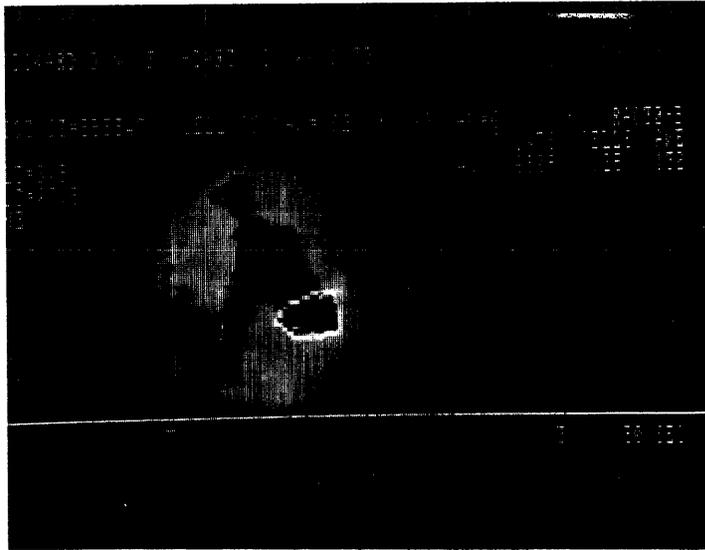

FIGURE 1. ROI defined over end-diastole left ventricle
- 4) Enter irregular region of interest (IR), outline the left ventricle and save the matrix ( $SM_n$ ). (Figure 1)